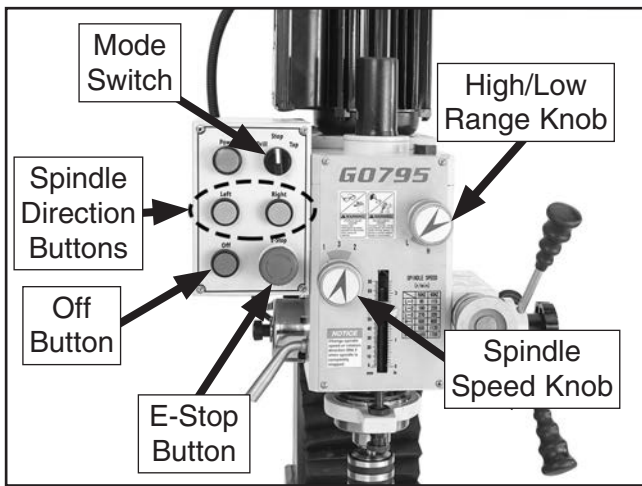

Figure 13. Location of control panel and spindle speed controls.
- Turn high/low range knob to "L" and spindle speed knob to "2" (see **Figure 13**). This selects a spindle speed of 220 RPM (refer to spindle speed chart on headstock).
- Twist E-stop button clockwise until it pops out (see **Figure 13**)—this resets the button and enables power to control panel and motor.
- Press "Left" button (see **Figure 13**). Spindle should rotate clockwise (as viewed from top) and machine should run smoothly with little to no vibration or rubbing noises.